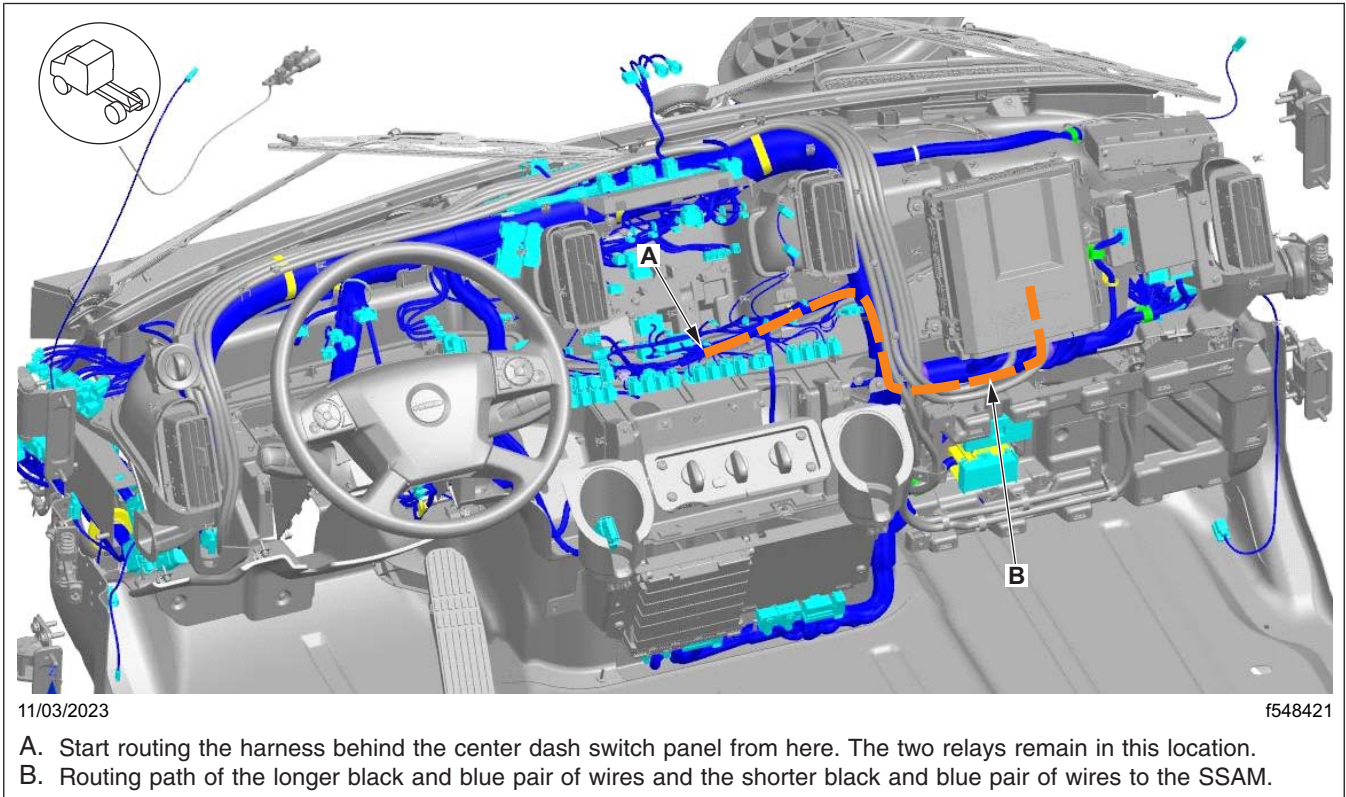
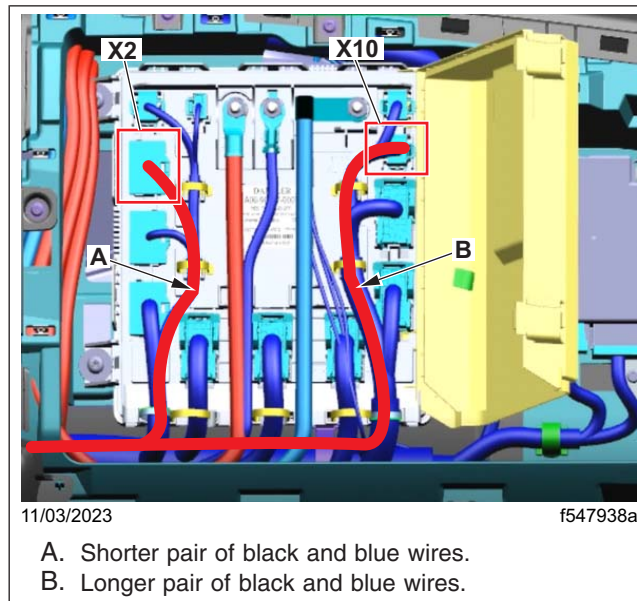

Fig. 14, Routing of the Two Black and Blue Wire Pairs to the SSAM
Fig. 15, Routing of the Longer and Shorter Pair of Black and Blue Wires to the SSAM
7. Route the two blue and two black wires to the SSAM in the path shown in Fig. 14 and Fig. 15.